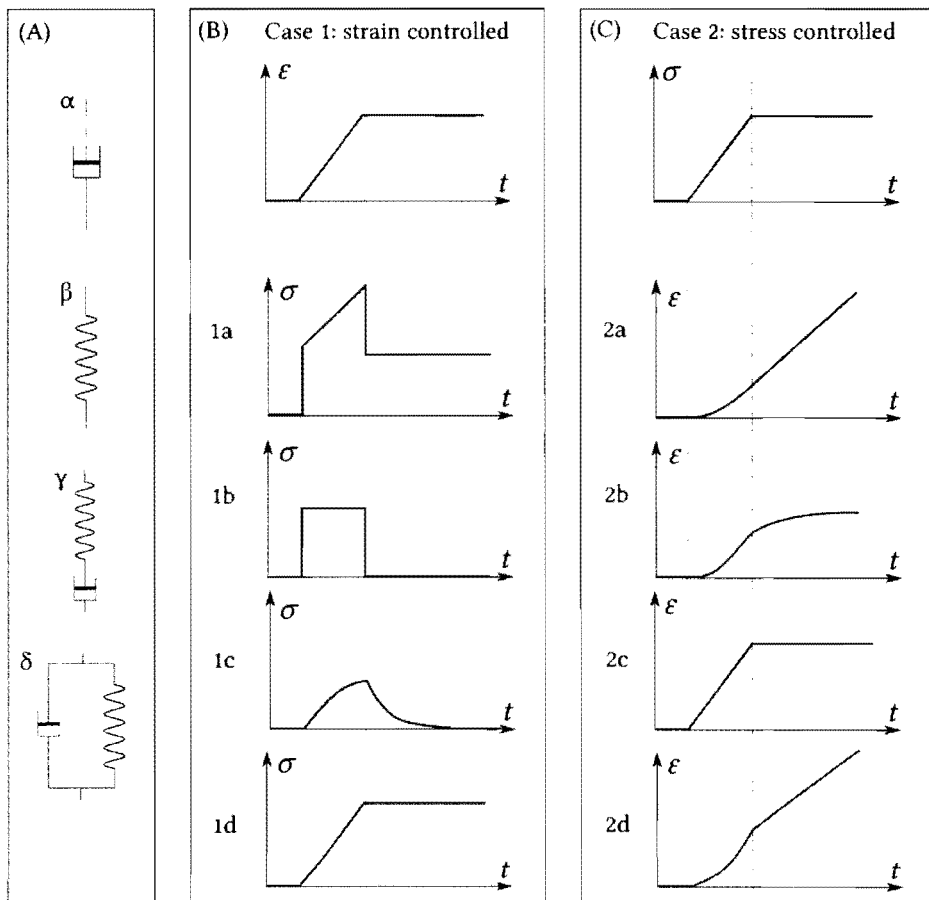

Fig. 6
5 (a) Figure 6(A) shows diagrams of four different viscoelastic models, referred to as α , β , γ and δ .
(i) Figure 6(B) shows a linear ramp in strain and, below, the corresponding evolution of stress in each of these models, presented in a random order. Match each of the stress-time graphs 1a to 1d to its related viscoelastic model α , β , γ or δ . Briefly justify your answer. [5]
(ii) Figure 6(C) shows a linear ramp in stress and, below, the evolution of the strain in each of these models, presented in a random order. Match each of the strain-time graphs 2a to 2d to its related viscoelastic model. Briefly justify your answer. [5]
(iv) The system behaviour corresponds to one of the models shown in Fig. 6(A). Explain which one is relevant and where appropriate give expressions for the corresponding spring and dashpot constants as a function of the model parameters defined above. [3]